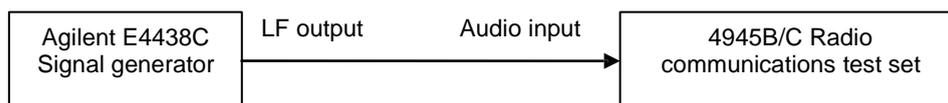

Fig. 6-15 Block diagram for audio signal analysis characteristics test
- 4) As shown in Fig. 6-15, connect the test instrument set the low-frequency output frequency of the signal generator to 20 Hz and the amplitude to 100 mV_P, and record the frequency measurement f1; change the low-frequency output frequency to 20.1 Hz and record the frequency measurement f2;
- 1) As shown in Fig. 6-15, connect the test instrument and set the signal generator to the low-frequency output and dual-tone mode, with frequency 1 of 300 Hz and frequency 2 of 600 Hz (audio 2 takes up 50% of the amplitude), and the output level of 140 mV_P ($100 \text{ mV}_{\text{rms}}$); set 4945B/C to the audio analysis mode, with the measuring frequency of 300 Hz, filter of 5 kHz LPF, and input range of $500 \text{ mV} \sim 50 \text{ mV}$, and record the measured SINAD values in corresponding spaces of Table A.1;
- 1) As shown in Fig. 6-15, connect the test instrument and set the signal generator to the low-frequency output and dual-tone mode, with frequency 1 of 300 Hz and frequency 2 of 600 Hz (audio 2 takes up 9% of the amplitude), and the output level of 140 mV_P ($100 \text{ mV}_{\text{rms}}$); set 4945B/C to the audio analysis mode, with the measuring frequency of 300 Hz, filter of 5 kHz LPF, and input range of $500 \text{ mV} \sim 50 \text{ mV}$, and record the measured distortion values in corresponding spaces of Table A.1;
1) As shown in Fig. 6-15, connect the test instrument, and set the signal generator to low-frequency output with the frequency of 300 Hz and the output level 1 of 140 mV_p (100 mV_{rms}); set 4945B/C to the audio analysis mode, the SNR measurement mode to "Lock reference in case of noise", self-selected measuring frequency of 300 Hz, filter of 5 kHz LPF, input range of 500 mV~50mV, and press the "SNR Reference Lock" key; change the output level 2 of the signal generator to 280 mV_p (200 mV_{rms}); record the measured SNR values in corresponding spaces of Table A.1;